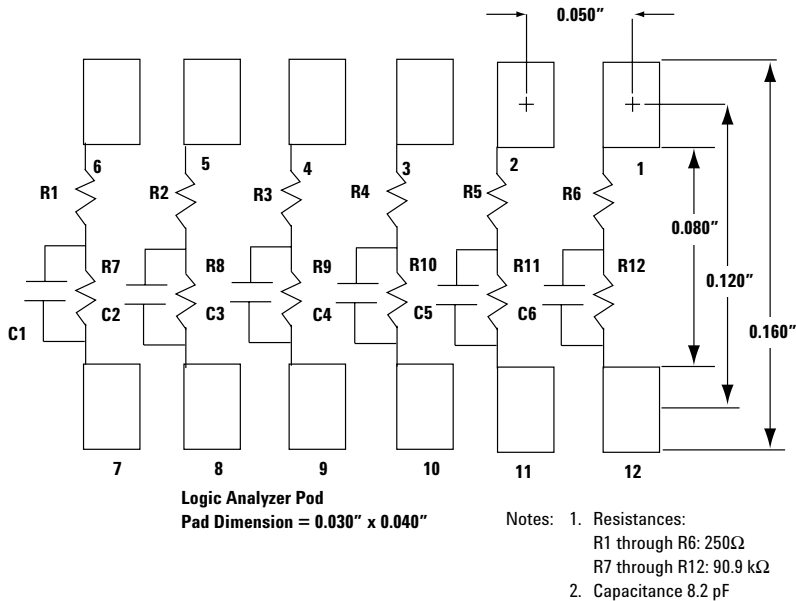

Figure 35. Recommended PC board pattern for 5062-7396 surface mount isolation network
- Use the surface mount isolation network, Agilent part number 5062-7396. Refer to figure 35 for schematic and pinout.
As shown in figure 35, the 5062-7396 SMT isolation network supports six logic analysis channels. The size of the part allows you to repeat the pattern in figure 35 to accommodate multiple parts stacked end-to-end for the number of channels needed in your application. Three of these SMTs are required for each probe